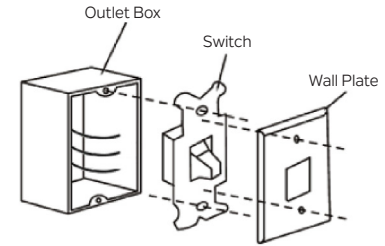

Fig. 19
Step 1. Remove the existing wall plate and switch from the wall outlet box. Disconnect wires from existing switch. (Fig. 19)